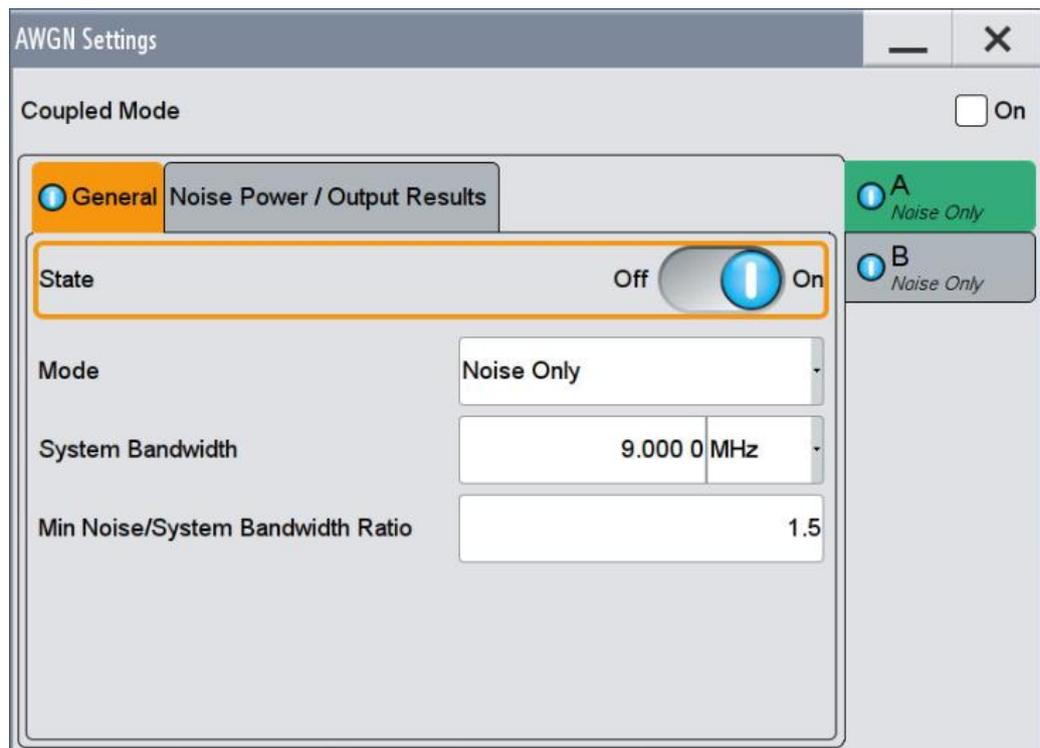
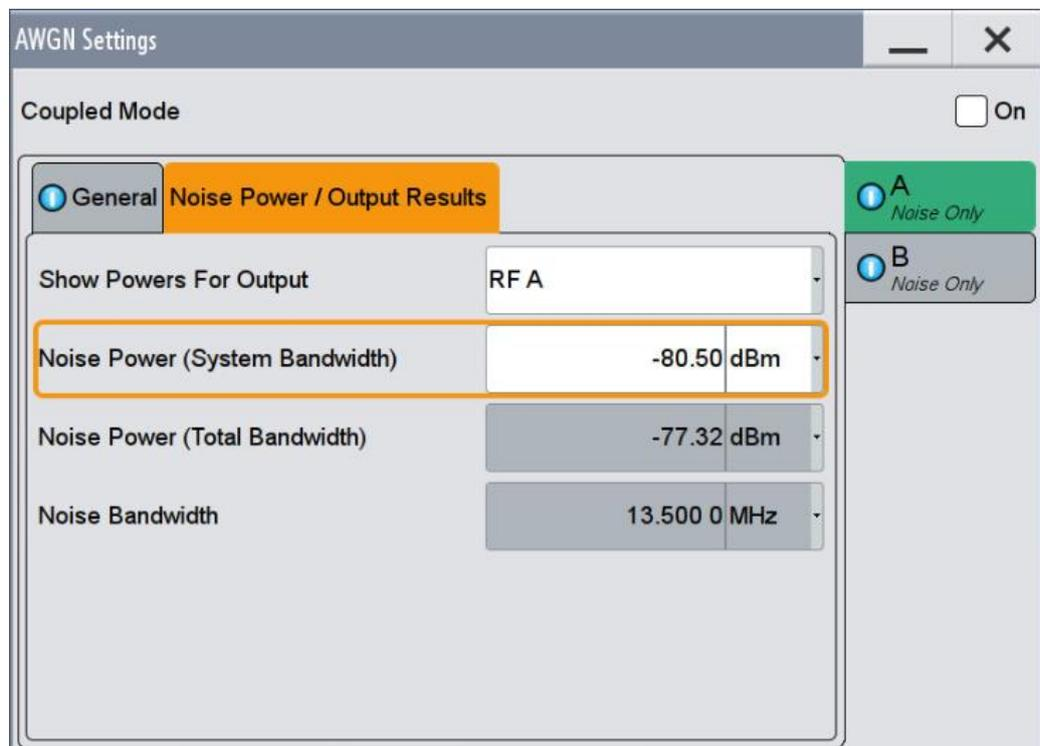

Fig. 3-220: For the Pfa test, the SMW generates noise only.
Fig. 3-221: Setting the noise power.
2. Set the Mode to **Noise Only** (Fig. 3-220).
5. Repeat the steps with the second path (see Fig. 3-220 and Fig. 3-221).